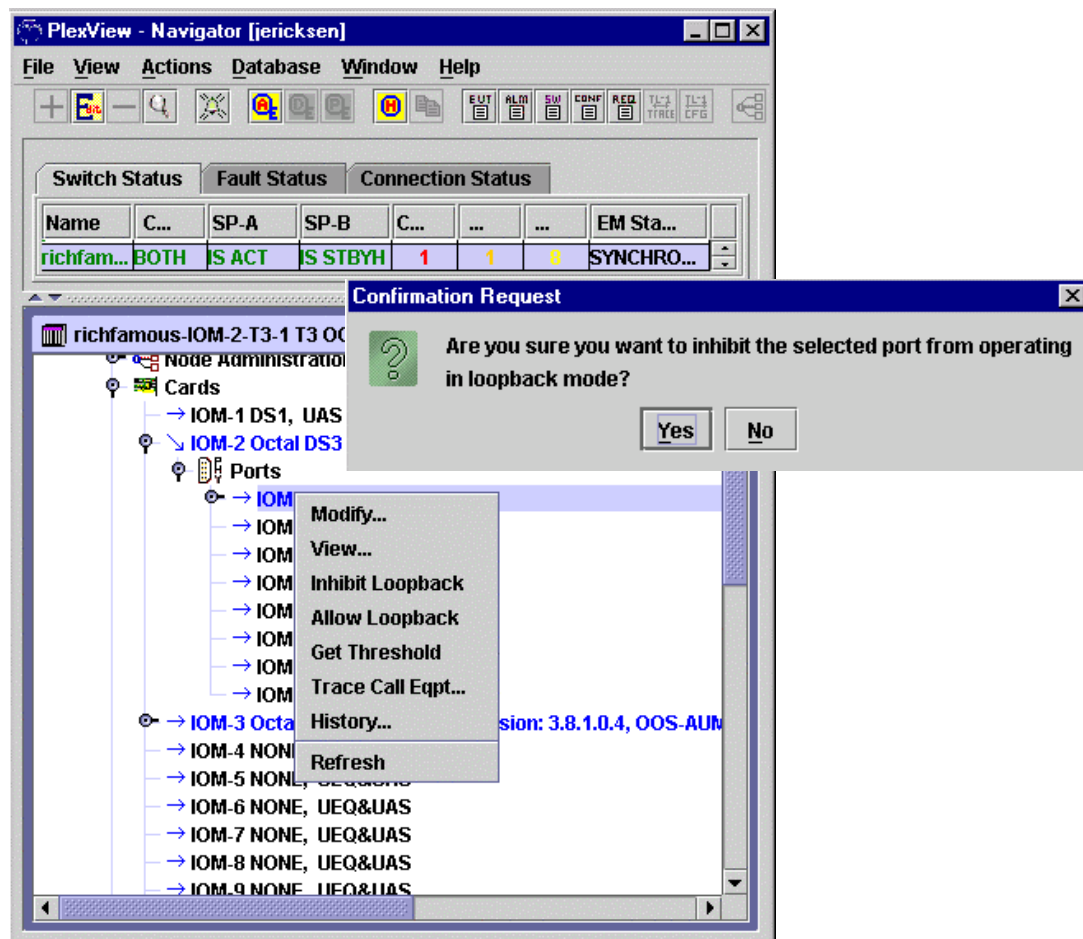

Figure 6. Inhibiting T3 Loopbacks
14. To prevent remote T3 loopbacks, double-click the switch to select it for the main panel and then right-click the switch name. Click *Cards*, desired *IOM* and *Ports*. Right-click the desired port and select *Inhibit Loopback*. Click Yes in displayed frame to allow loopbacks. See Figure 6.